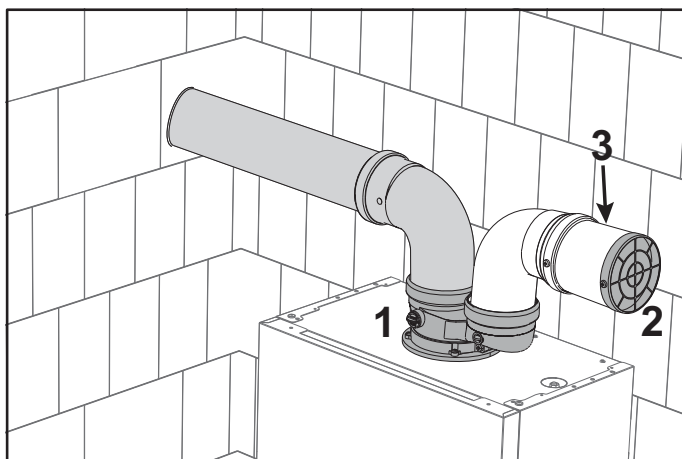

fig. 38- Protection grille
Install the starting accessory (ref. 1fig. 38 - code **041082X0**). The protection grille must be mounted in the intake duct (ref. 2 - fig. 38 - code **1KWMA85A**). If necessary, insert a short piece (3) between the grille and the accessory.